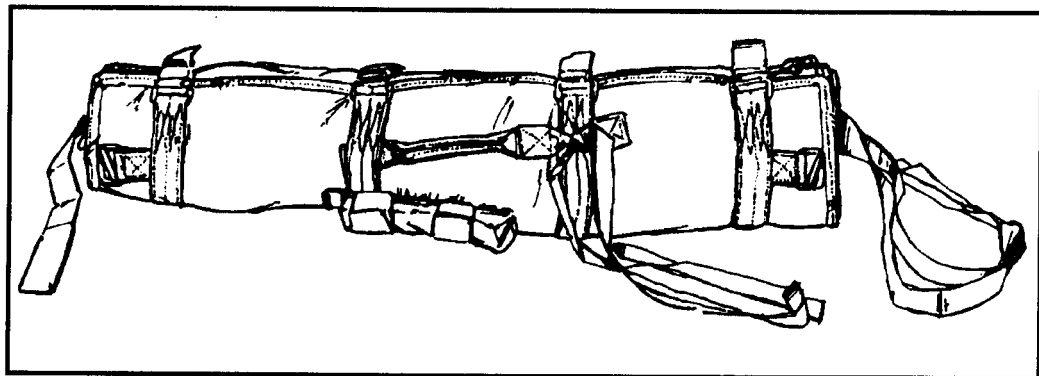

Figure 12-51. Pack closed.
(1) Rotate the unfolded portion over the rifle/weapon round snugly.
(2) Route the four side securing straps through the quick-fit adapters and tighten, then thread the end through the adapter, forming a quick-release fold. Fold the strap excess back under its corresponding quick-fit adapter (Figure 12-51, page 12-54).